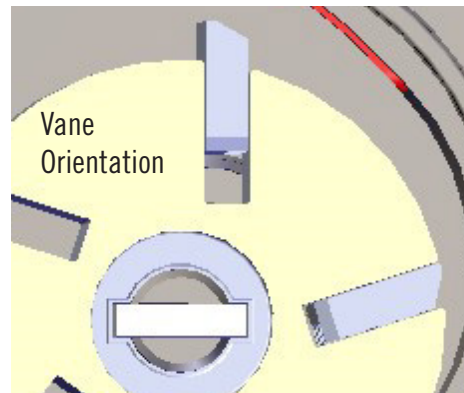

Figure 2
1. Remove the rotor cover (A) by removing the 3 attaching screws (B).
2. Remove the O-ring gasket (C).
3. Using a pair of needle nose pliers, remove the rotor key from the motor shaft (D).
6. Re-assemble in reverse order of disassembly. Note orientation of of vanes when inserting them into rotor (Figure 2).